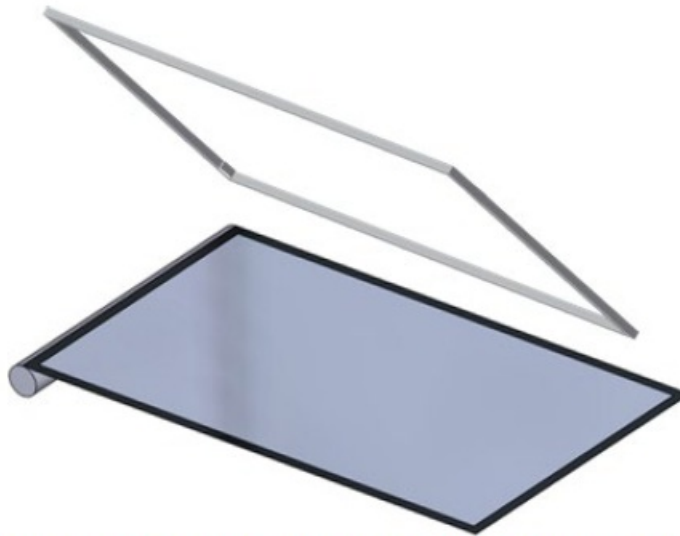

Figure 13: Unrolling the screen material, viewing side down
3. Leave the protective packing material under the screen material to protect the screen. Make sure that the top and bottom of both the screen material and the frame are both in the same direction (see Figure 13).